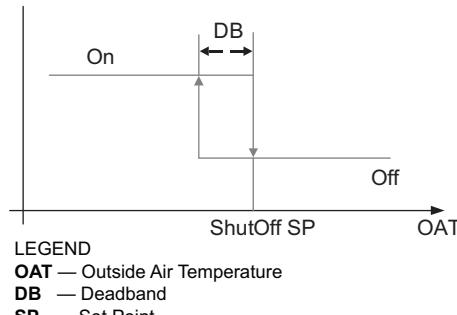

Fig. 81 — Hysteresis Settings
Hysteresis setting (DB) defaults to 2°F (−17°C). See Fig. 81.